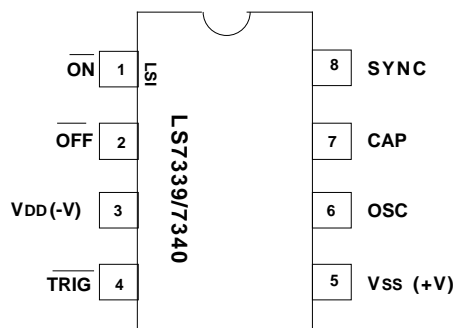

FIGURE 1
- LS7339, LS7340 (DIP); LS7339-S, LS7340-S - See Figure 1